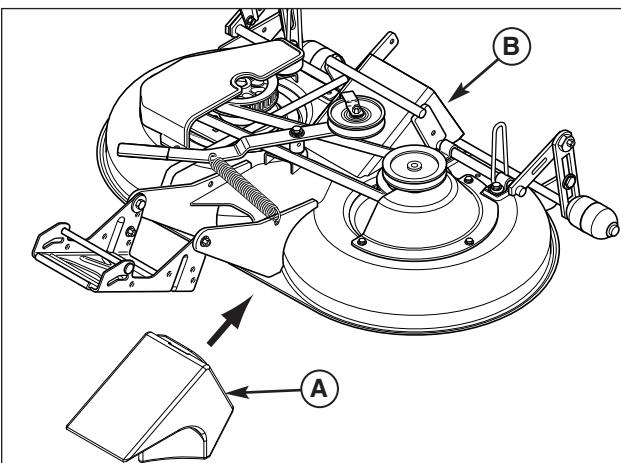

Figure 13. Install Mulch Plug
- Insert mulch plug assembly (A, Figure 13) into discharge (B) from the under side of the mower deck.